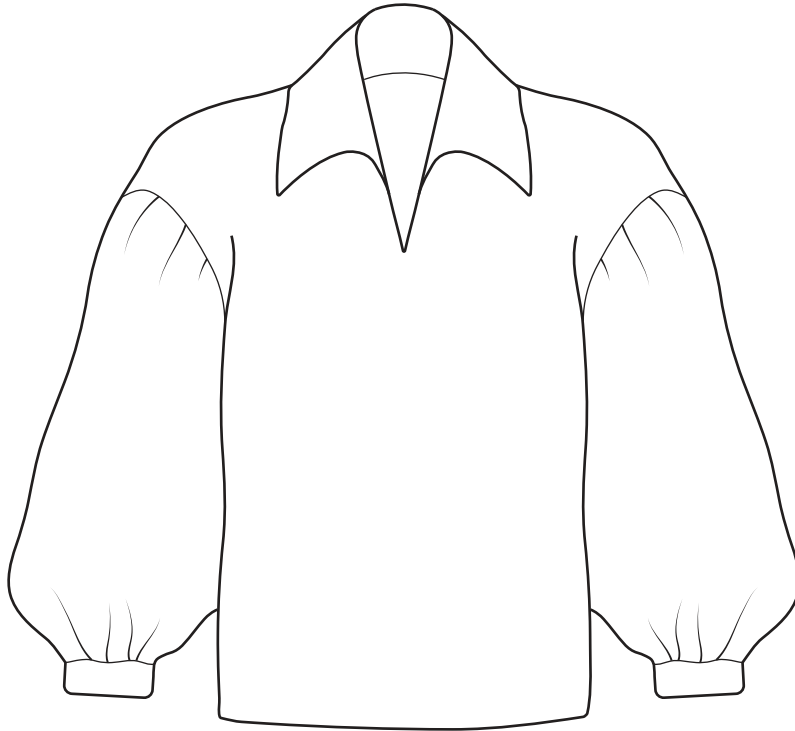

Fig. 1.1
1 Fig. 1.1 is a drawing of a shirt.
(a) Lawn is a suitable fabric for the shirt in Fig. 1.1.
(iii) State **two** reasons why lawn fabric is suitable for the style of shirt in Fig. 1.1.
(v) Identify a **natural** fibre, other than cotton, that could be used to make a fabric for the shirt in Fig. 1.1.
(vi) State **three** advantages of using the fibre identified in **1(a)(v)** to make fabric for the shirt in Fig. 1.1.
(b) (i) Identify **two** places where interfacing could be used on the shirt in Fig. 1.1.
(ii) State **three** reasons to use interfacing on the shirt in Fig. 1.1.
- (c) (i) State the correct order of work to **make** the straight band cuff for the sleeve of the shirt in Fig. 1.1. You may use labelled diagrams in your answer.
- (ii) State the correct order of work to **attach** the straight band cuff to the sleeve of the shirt in Fig. 1.1. You may use labelled diagrams in your answer.
- (d) (i) Sketch and label an original creative design to go on the shirt in Fig. 1.1. Your design must combine **three** different named hand embroidery stitches.
(e) Identify **two** methods that could be used to make a hem on the shirt in Fig. 1.1.